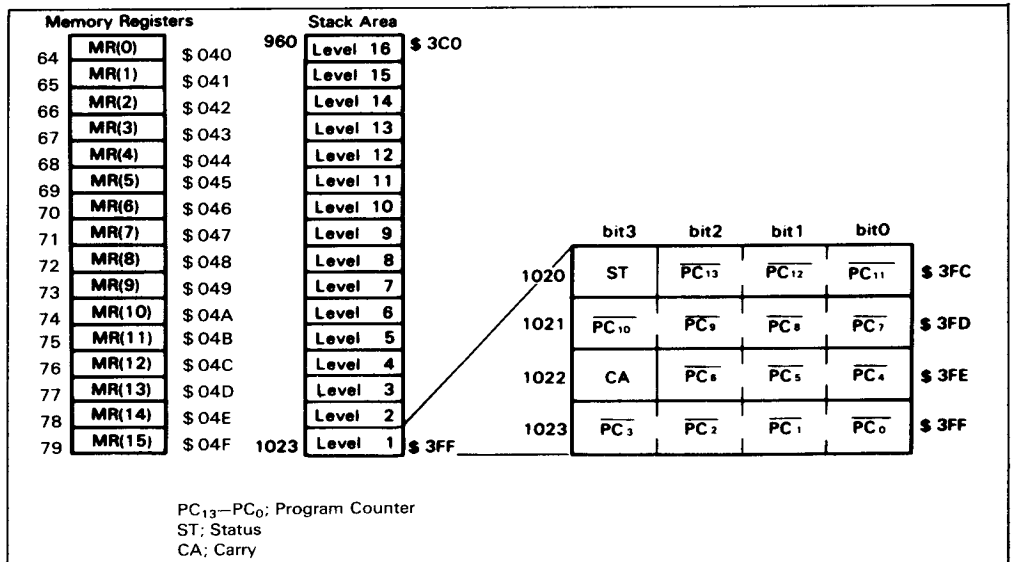

Figure 4. Memory Register, Stack Area and Stack Position
Data Area (\$040 to \$04F, \$0A0 to \$24F): Location \$040 through \$04F, the memory registers (MR), can be also accessed by the LAMR and XMRA instructions. Figure 4 shows memory register area.
Stack Area (\$3C0 to \$3FF): Locations \$3C0 through \$3FF are reserved for the stack area to save the contents of the program counter (PC), the status flag (ST) and the carry flag (CA) during subroutine calls (the CAL and CALL instructions) or during interrupt servicing. One level of subroutine requires four digits, which allows the programmer to use up to 16 levels of subroutines. Figure 4 shows the stack area and saved data. The program counter is popped off the stack by the RTN and RTNI instructions, while the status and carry flags are popped off the stack only by the RTNI instruction. The unused area is available as a data area.